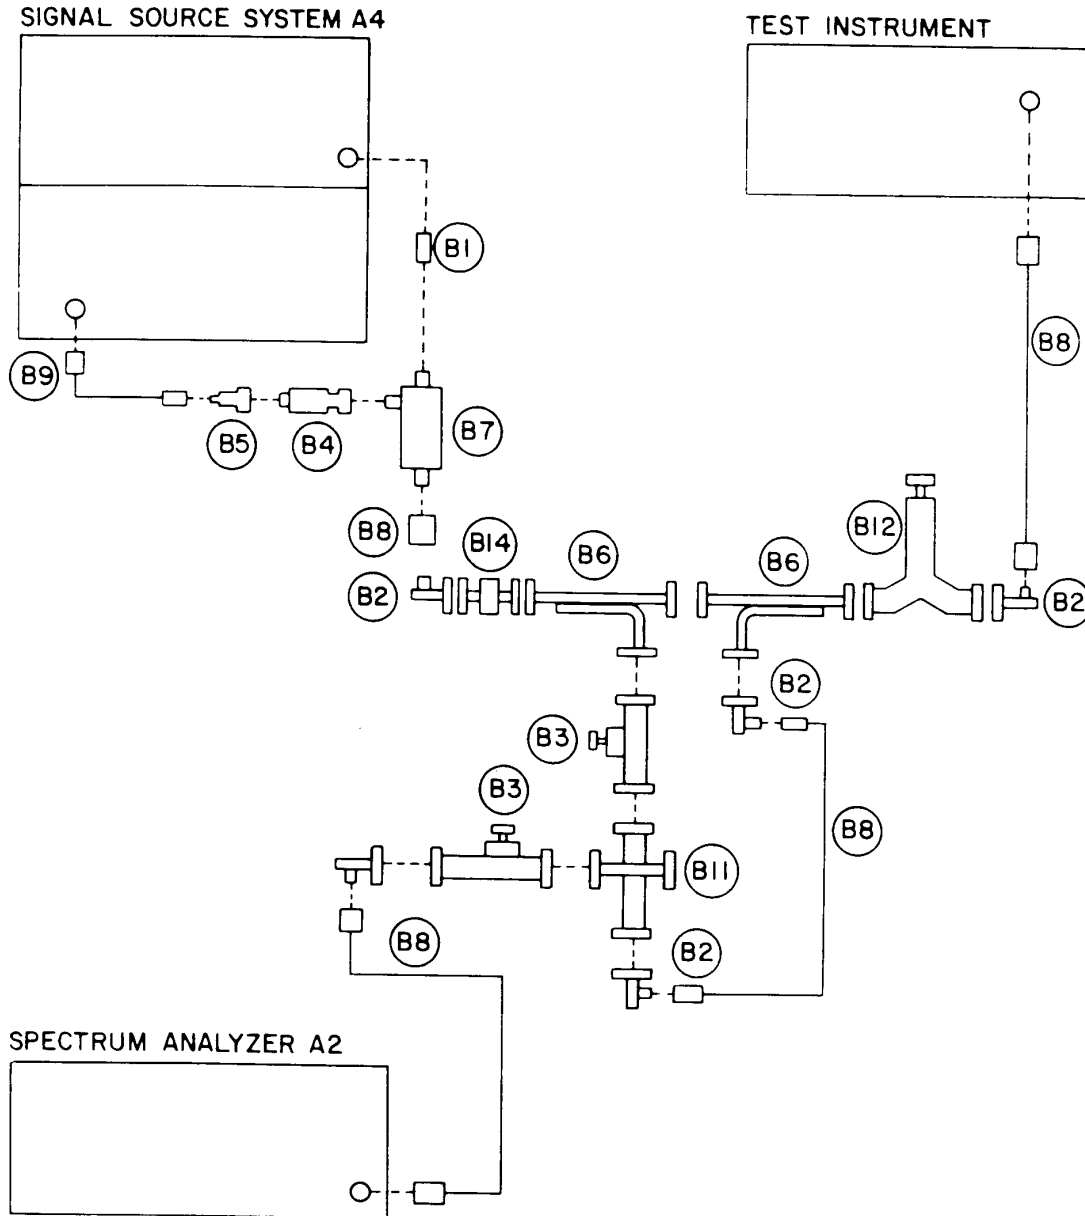

Figure 10. Sideband modulation check - equipment setup.
(1) Connect equipment as shown in figure 10.